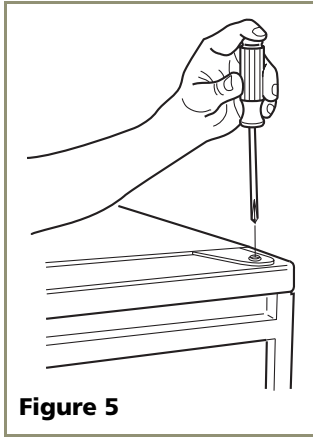

Figure 5
1. Remove top hinge screw pin from door (Phillips screwdriver) (see **Figure 5**). Remove door by tilting forward and lifting off bottom hinge pin.